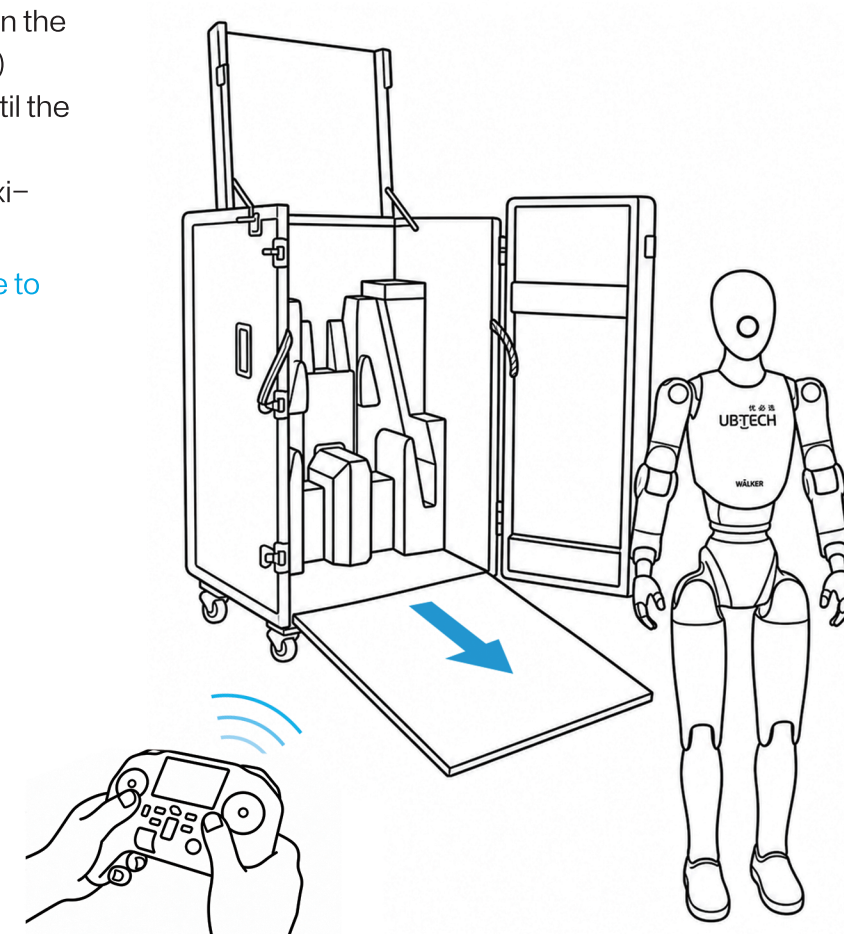

Figure 5
4. Hold SE and push T4 left, then wait for the robot to stand up on its own, step out of the case, and walk down the loading ramp onto flat ground until it comes to a steady stance — this indicates a successful unboxing (Figure 5)